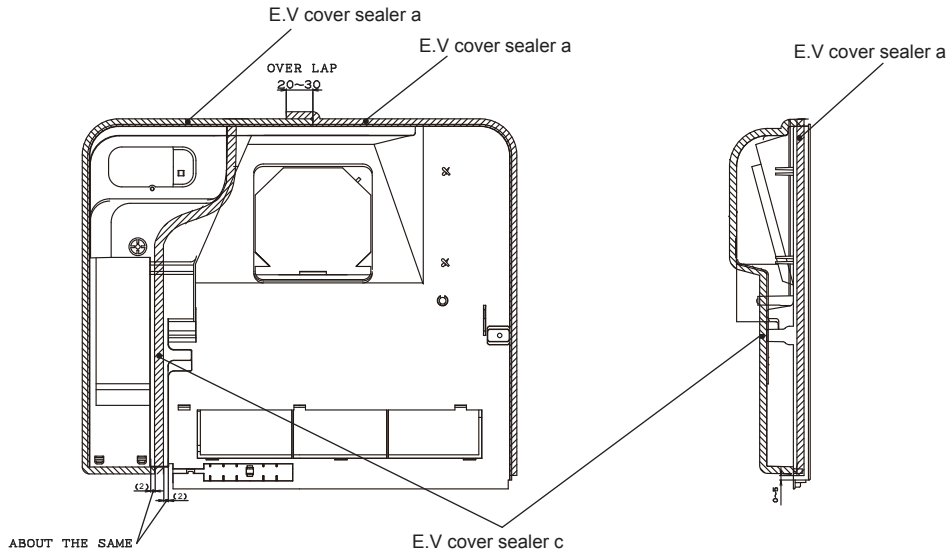

Figure A-4
3) Stick E.V cover sealer a and c to E.V cover. (Figure A-4)